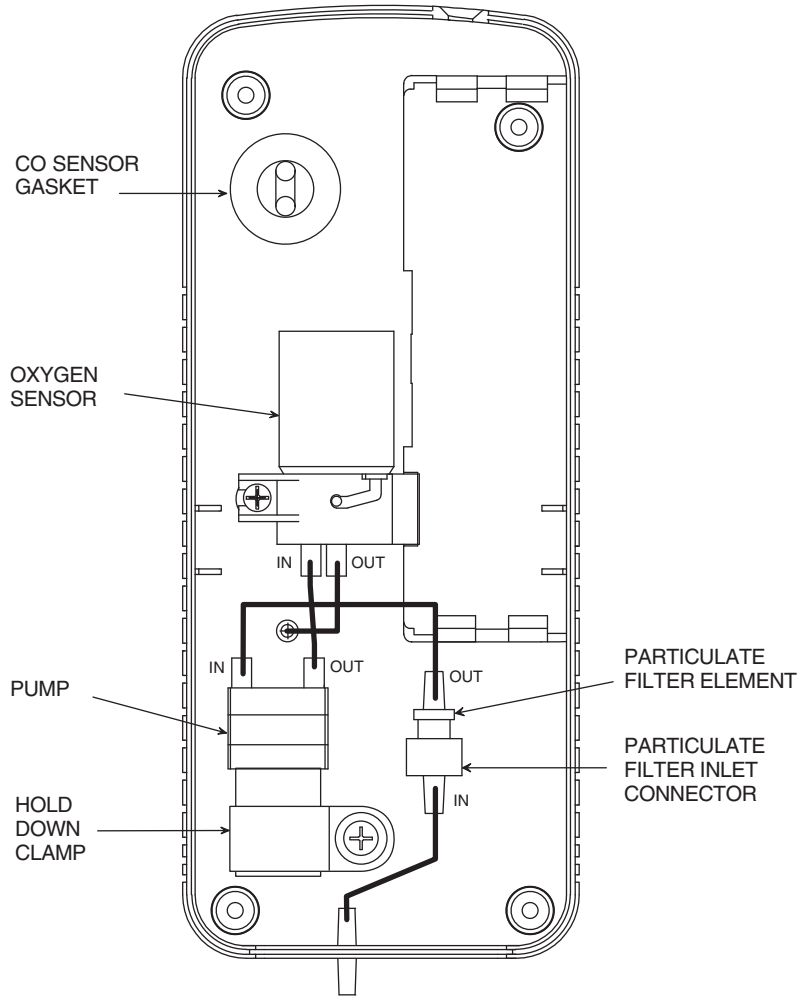

Figure 5-3. Back Case Component Locations
The particulate filter (found inside the case, between the gas inlet and pump, see Figure 5-3) may clog up with soot depending on the cleanliness of the areas being sampled. If replacement is needed:
2. Twist off the Particulate Filter Inlet Connector (see Figure 5-3).
2. Slip off the oxygen sensor's electrical connector from the circuit board. Then push down; twist counterclockwise; then pull the oxygen sensor out of its socket (see Figure 5-3).
3. Unscrew the pump's hold down clamp and remove it from the pump (see Figure 5-3). Make note of how the pump wiring is routed.